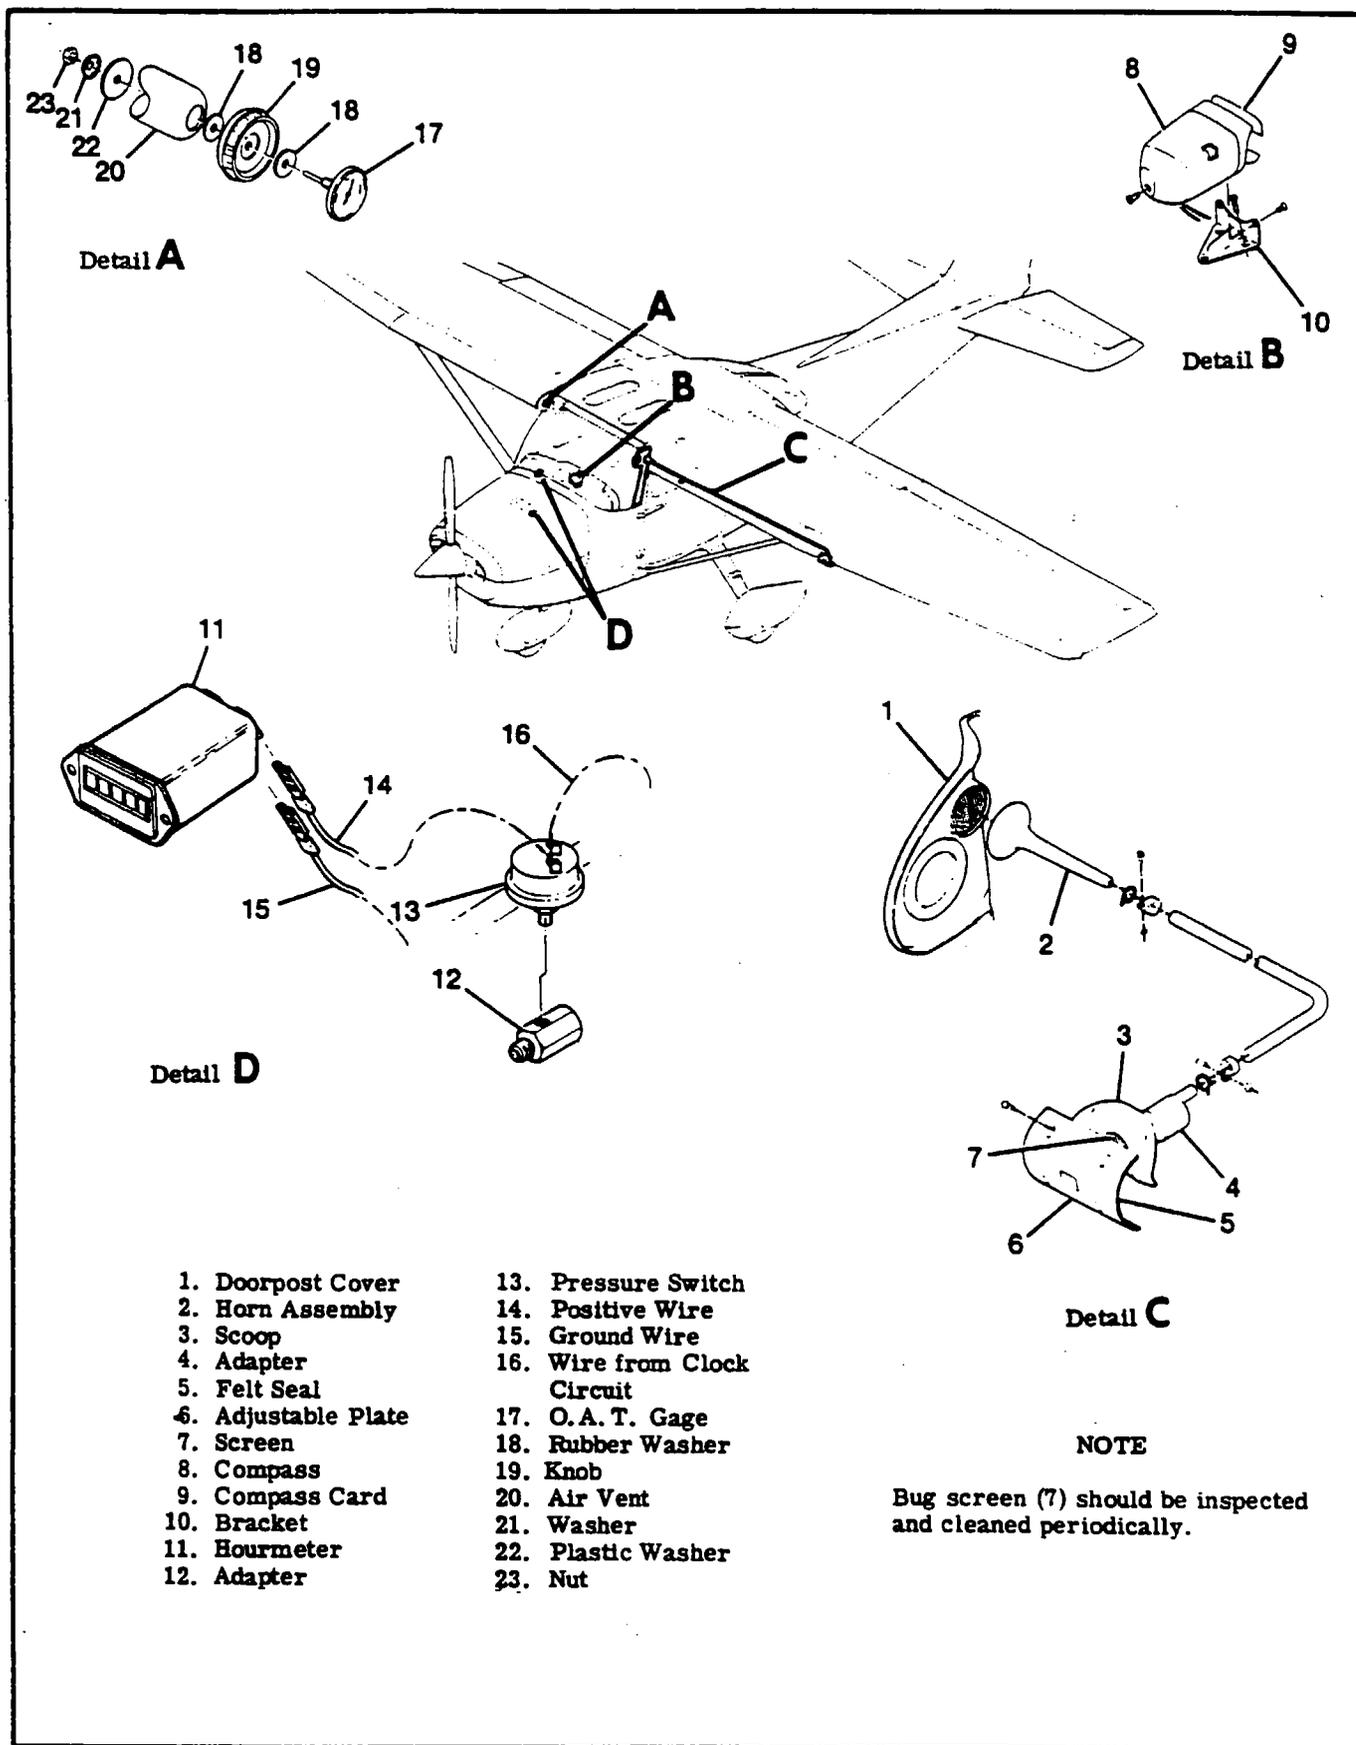

Figure 15-5. Miscellaneous Instruments and Stall Warning System
- 15-52. HOURMETER. (See figure 15-5.)
- 15-56. **REMOVAL AND INSTALLATION.** See figure 15-5 for removal and installation.
- 15-58. **DESCRIPTION.** The system is composed of an adjustable plate on left wing leading edge, connected to a reed type horn by means of plastic tubing. The horn is actuated approximately 5 to 10 knots above stalling speed as a negative air pressure area at wing leading edge causes a reverse flow of air through horn. By moving adjustable plate (6) up, actuation of horn will occur at a higher speed and moving plate down causes actuation to occur at a slower speed. Center adjustable plate opening in wing leading edge upon installation, then flight test aircraft, observing horn actuation during stall. Readjust plate to obtain desired results if necessary. Approximately 3/32 inch adjustment of plate will change speed at which horn actuation occurs by 5 knots. To test horn operation, cover opening in plate (6) with a clean cloth, such as a handkerchief and apply a slight suction by mouth to draw air through horn.
- 15-59. **REMOVAL AND INSTALLATION.** Refer to figure 15-5 for removal and installation.
15-66. OUTSIDE AIR TEMPERATURE GAGE (See figure 15-5).